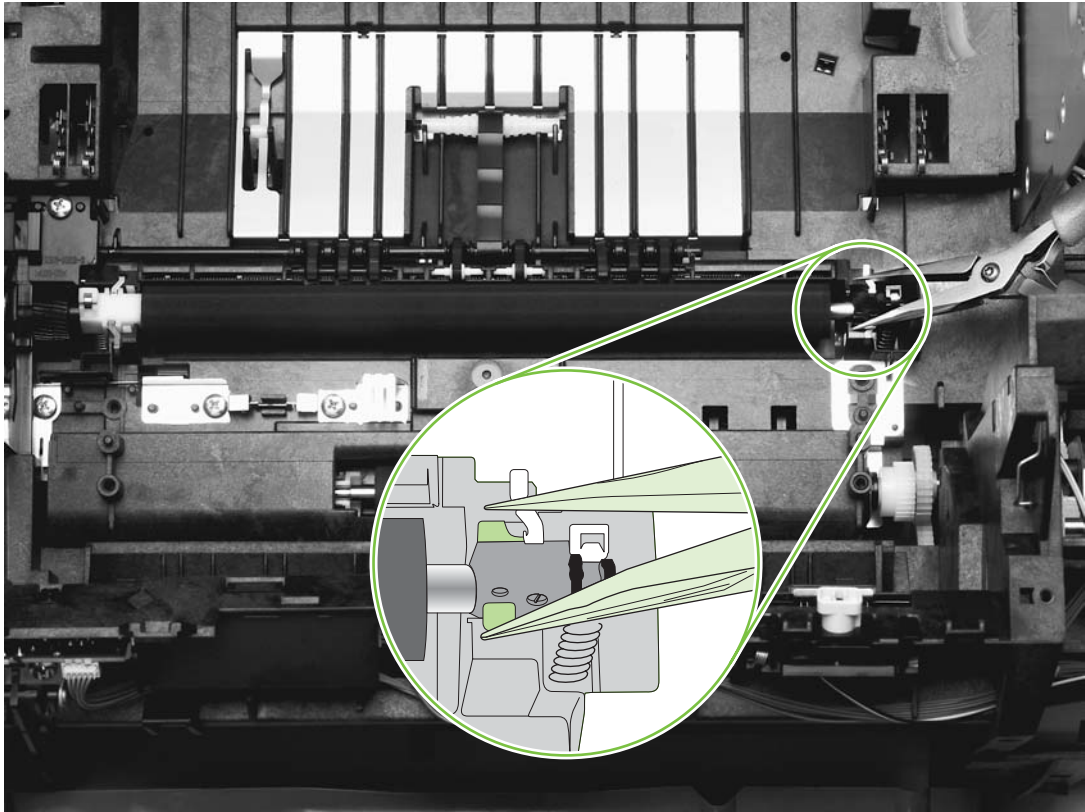

Figure 5-58 Remove the transfer roller
- 2 Use needle-nose pliers to gently squeeze the small tabs at the right side of the transfer roller (see the detail in Figure 5-58 Remove the transfer roller) and then also squeeze the tabs at the left side of the transfer roller to release the roller.